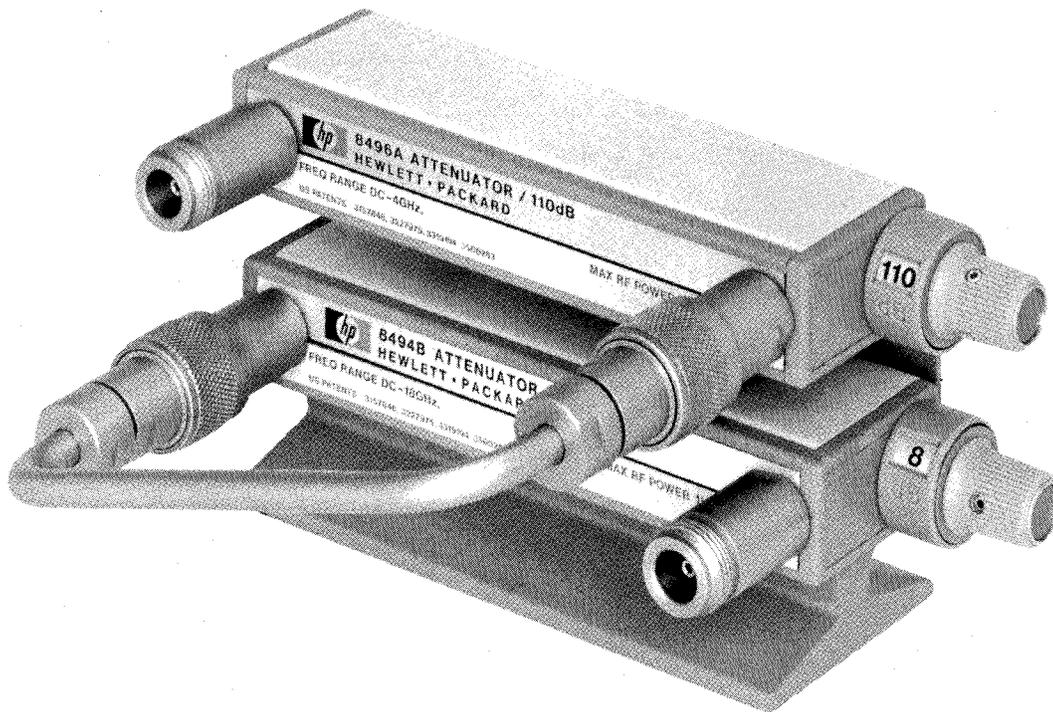

Figure 1 Typical Installation
6. If no sheet metal base is being used, the adhesive-backed felt feet that are supplied may be attached to the underside of the bracket to prevent marring the surface on which the combined attenuators are set. Figure 1 shows how the interconnection kit is typically used.